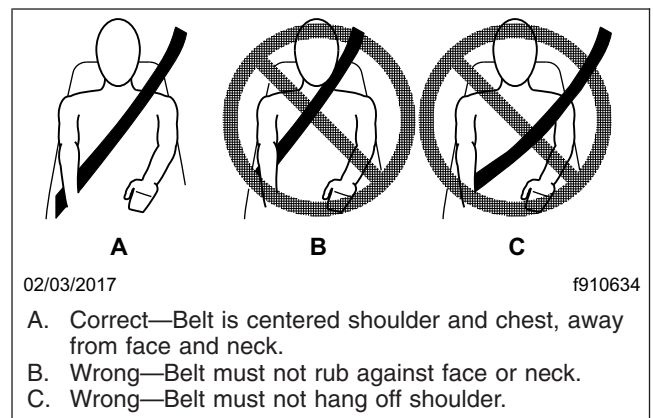

Fig. 7.7, Proper Shoulder Strap Fit
5. Position the shoulder strap diagonally across your chest with the adjustable D-loop bracket (if equipped). The shoulder strap must be centered on your shoulder and chest, away from your face and neck. See Fig. 7.7.
5. Position the shoulder strap diagonally across your chest with the adjustable D-loop bracket (if equipped). The shoulder strap must be centered on your shoulder and chest, away from your face and neck. See Fig. 7.7. If desired, engage the Komfort Latch or Sliding Komfort Latch as follows.